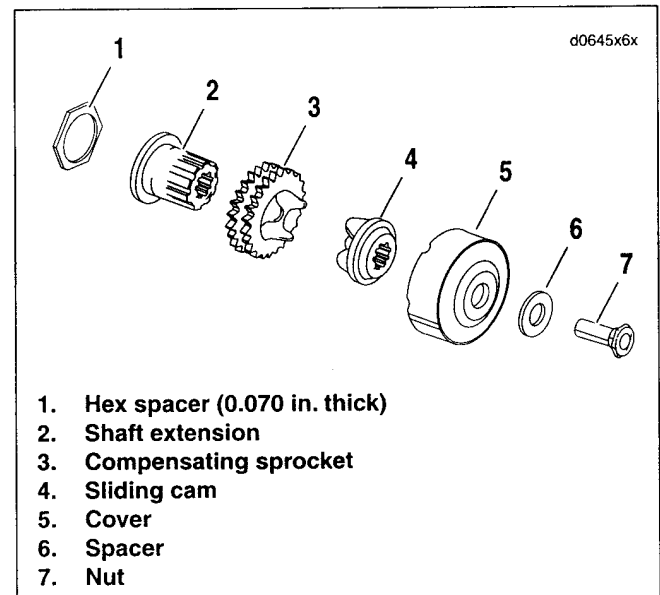

Figure 6-11. Compensating Sprocket
- See Figure 6-11. Remove nut (7), spacer (6), sprocket cover (5) and sliding cam (4).
- See Figure 6-11. Slide compensating sprocket (3) and sprocket cover (5) over shaft extension (2).
- Clean and prime threads of nut (7). Apply two drops of **LOCTITE THREADLOCKER 262** (red) to the threads. Install spacer (6) and nut hand tight.